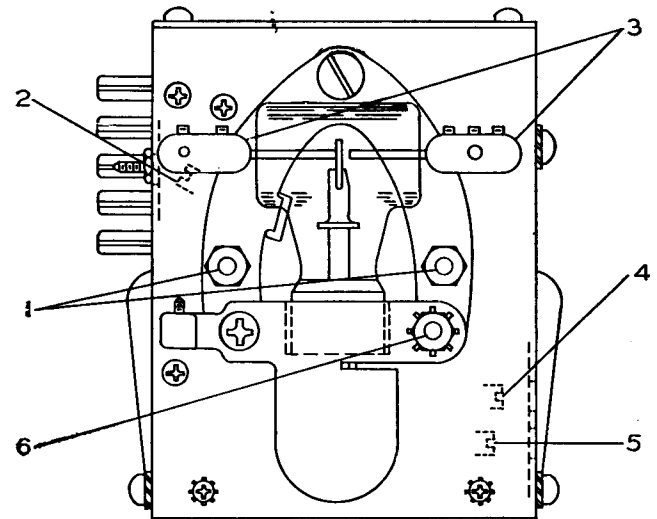

Figure 5-18. Keying Relay (K102) Adjustment
(2) 410 0008 00 (K102)
This relay has been provided with three adjusting screws. Refer to figure 5-18. The two adjusting screws located on the side of the relay opposite the multiterminal connector plug control the position and tension of the relay armature when the relay is unoperated. The lower adjusting screw, item 5, determines the position of the armature and the upper screw, item 4, determines the tension of the armature return spring. The tension of the armature return spring, as measured at the top of the bakelite strip should be between 23 ounces and 24 ounces.
This vacuum contact is mounted on the keying relay K102. The vacuum contact must be adjusted to operate properly when the relay is adjusted as described in the preceding paragraphs. The vacuum contact make and break action must occur between the operation of contact groups one and two of keying relay K102. Refer to figure 5-18. A single adjusting screw, Item 2, near the multiterminal connector plug permits the adjustment of the mounting yoke so that the movable contact operating arm will operate the arm to close the contact but will not apply enough pressure to damage the vacuum tube. To adjust the mounting yoke, loosen the two hexagon head screws, Item 1, and with the relay unoperated, rotate the adjusting screw, Item 2, in a direction that allows the movable contact within the vacuum tube to rest firmly against the fixed contact that is ordinarily connected to the RECEIVER terminal of the transmitter. When this adjustment has been completed, tighten the two hexagon head screws, Item 1, and apply voltage to the relay coil (Terminals 14 and 15 on the multiterminal connector plug) and, with the relay operated, check the position of the movable contact within the vacuum tube. The movable contact arm should rest firmly against the fixed contact that is ordinarily connected to the COND. terminal on the transmitter. The contact should be firm but the movable arm should not apply enough pressure to the fixed arm to endanger the vacuum seal. The contact pressure must not exceed 23.45 ounces measured at a point $\frac{3}{4}$ inch from the diaphragm. If the movable contact is applying too much pressure to the fixed contact when the relay is operated, readjust the lower adjusting screw, Item 5, on the side of keying relay K102, opposite the connector plug, to reduce the pressure. If the movable contact is applying too much pressure to the fixed contact when the relay is unoperated, readjust (Item 4).